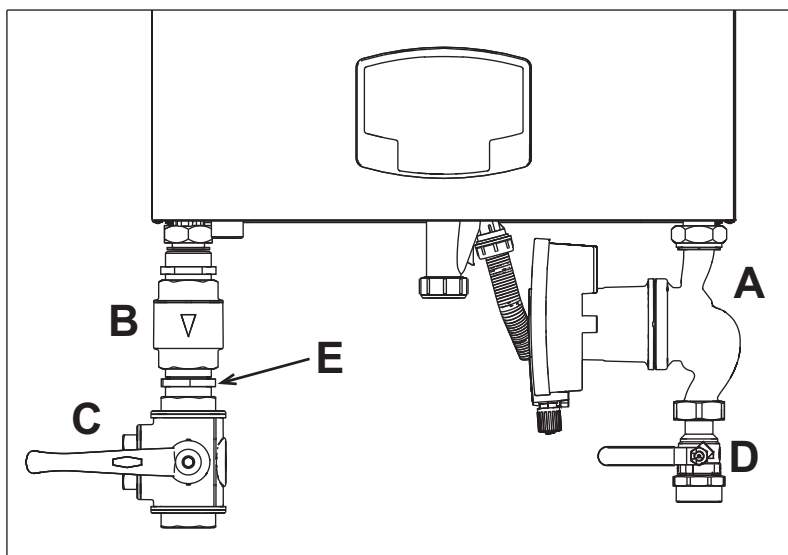

fig. 35- Boiler with installed kits
**code 042070X0 - HIGH EFFICIENCY CIRCULATING PUMP KIT- 7m. (A - fig. 35)**
**code 042071X0 - HIGH EFFICIENCY CIRCULATING PUMP KIT- 10m. (A - fig. 35)**
- 1 NON-RETURN VALVE - Female 1"1/2 (B - fig. 35)**
- 2 3-Way FAUCET - Female 1"1/2 (C - fig. 35)**
- 3 FAUCET Male/Female 1"1/2 (D - fig. 35)**
- 4 CONNECTION NIPPLE 1"1/2 (E - fig. 35)**